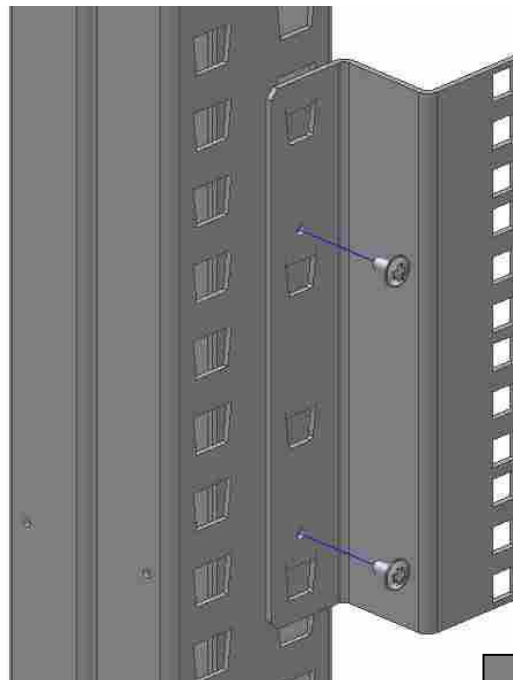

Fig 4
STEP 2 - Mount the **safety screws (3.9x13mm threaded screw-locks)** of the **19" support kits** to prevent them coming out of the trapezoids (Fig. 4).